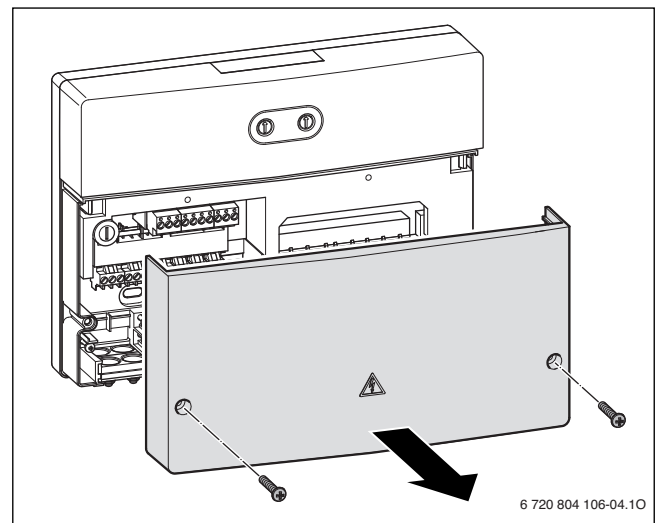

Fig. 4 Wall mounting - step 1
- ▶ Mount the module to a wall (→ Fig. 4 to 6).